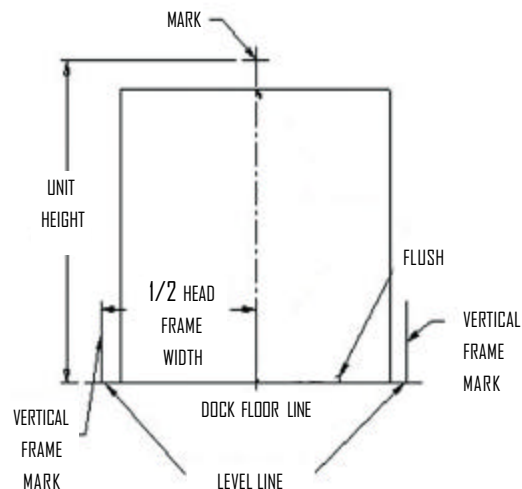

FIG. 2
- Take 1/2 the head curtain width and mark this distance on both sides of door's centerline (Fig. 2). This will determine the outside position of each vertical pad.
- Use information from Step. 2 and Fig. 2, determine position of vertical frame's bottom edges.